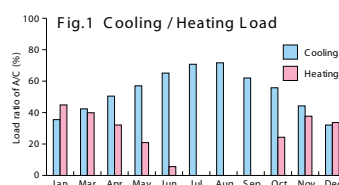

Fig.2 Calculating cases of direct TEWI
- * Calculating cases of direct TEWI are referred as Fig2.